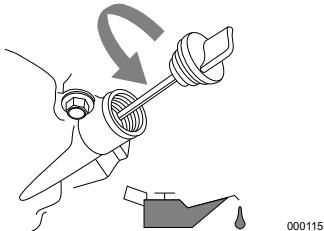

Figure 4-1. Engine Oil Fill
3. See **Figure 4-1** Remove oil fill cap/dipstick and wipe dipstick clean.